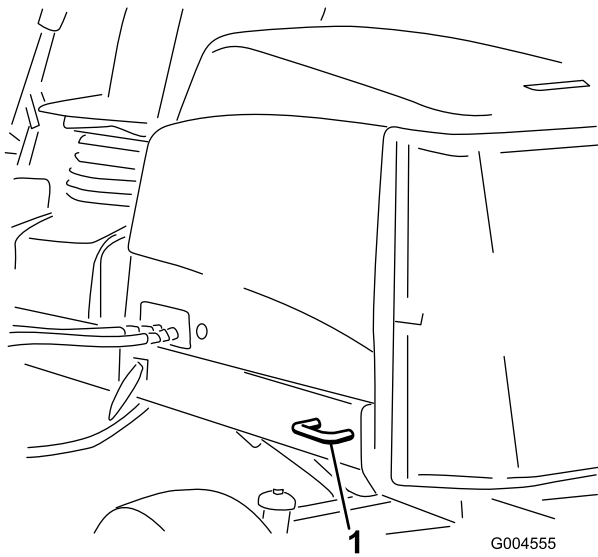

Figure 26
- **Rear of the machine**—each side of the machine on the rear frame (Figure 26).